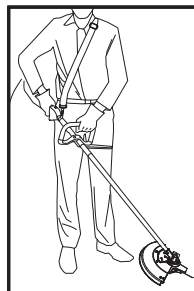

Fig. 15
6. Ensure that the angle of the cutting head is parallel to the surface being cut (Fig. 15).